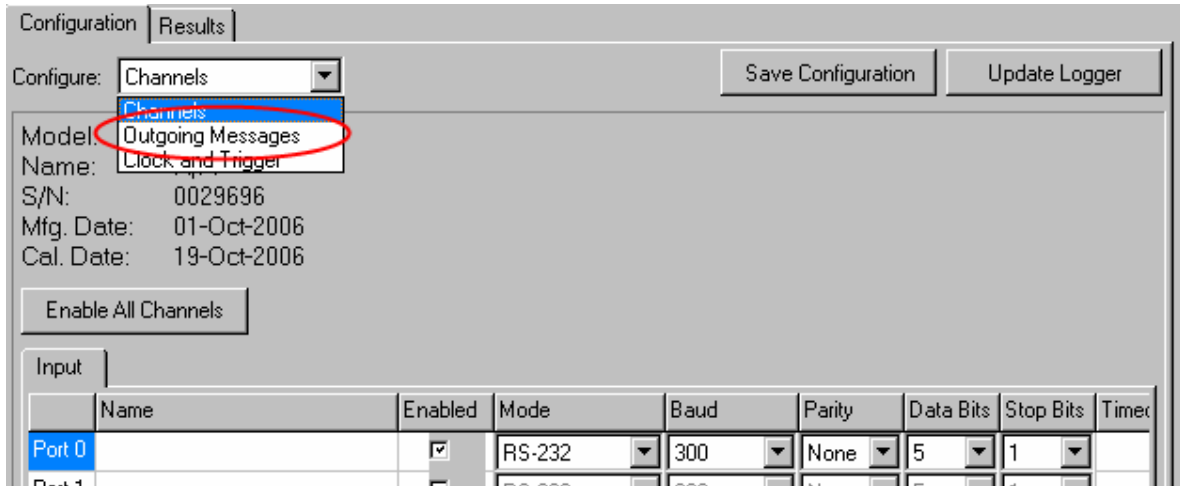

Figure 2-35. SL-501 Outgoing Message Configuration Screen
2.10.1 User Interface The drop-down menu in the Configuration tab for the SL-501 layer has an additional item labeled “Outgoing Messages”, which allows you to access a configuration panel for setting up outgoing messages. See **Figure 2-35**.